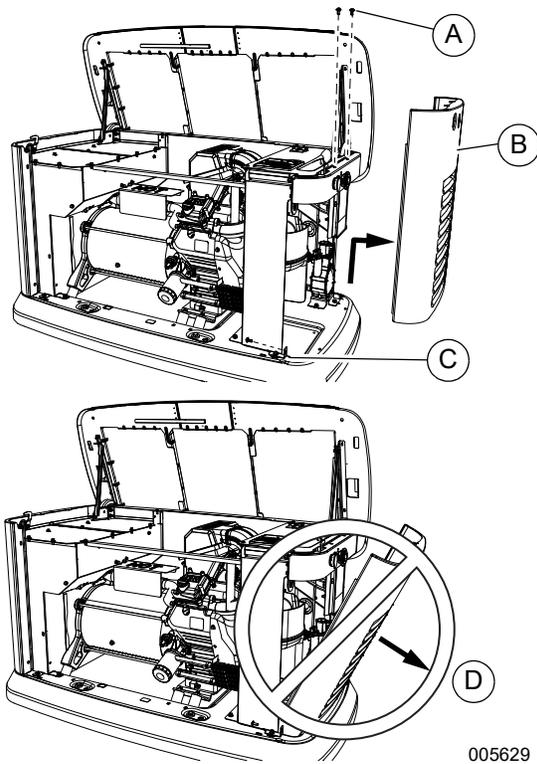

Figure 4-2. Remove Intake Side Panel
See Figure 4-2. The intake side panel (B) must be removed to access battery compartment, fuel regulator, and sediment trap. Proceed as follows to remove the intake side panel: